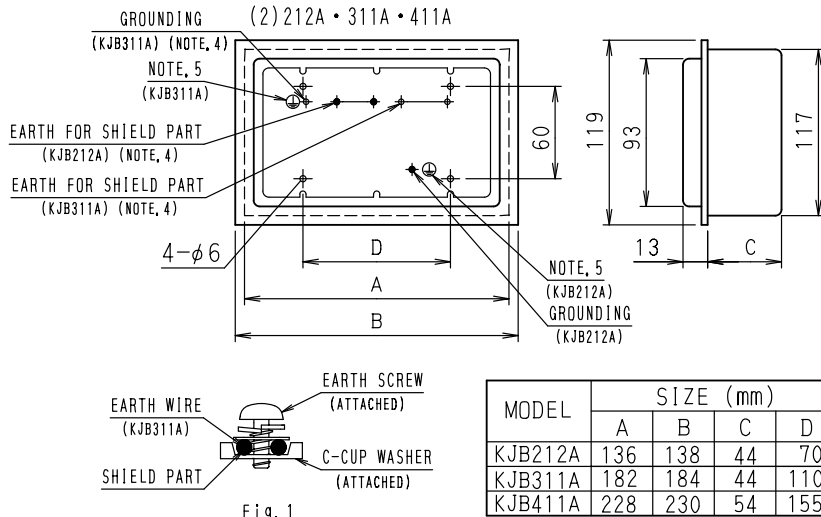

Fig. 1
4. Ground the shield part of shielded wire or earth wire (only KJB311A) as shown in the Fig. 1.